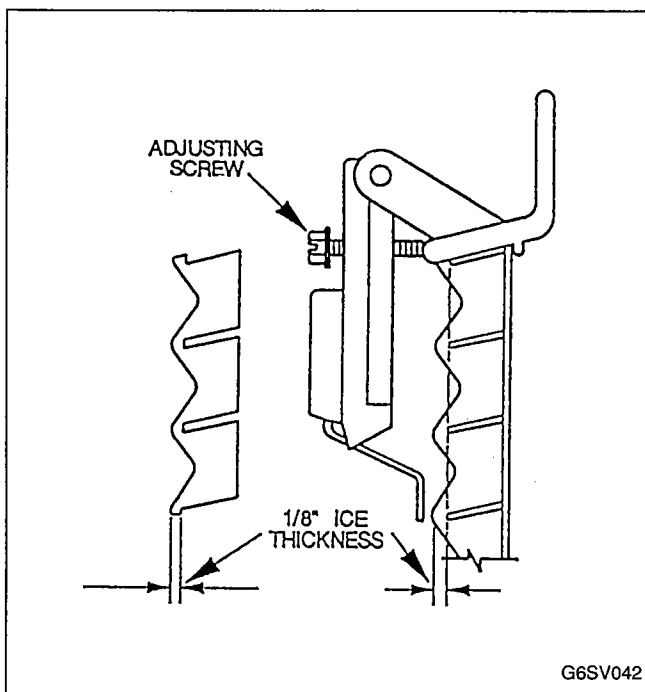

FIGURE 42. ICE THICKNESS CHECK
3. Turn adjustment screw (Figure 42) on ice thickness probe clockwise to increase ice thickness, counter-clockwise to decrease ice thickness.